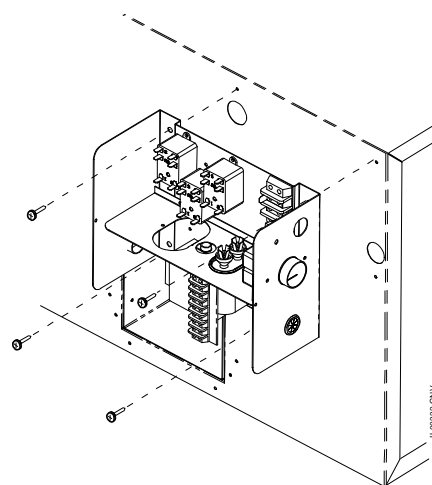

Figure 7. Mounting the Control Box.
To install, first remove the two knockouts on the side or top of the cabinet, where it will be installed. Mount the control box using four (4) sheet metal screws as shown in Fig. 7. Feed the wires from the anti-frost switch through the hole and bushing nearest the side of the unit and connect the leads to low voltage terminals 3 and 6. The motor wiring harness will slip through the other hole. Then simply connect the plug on the motor wiring harness. (For additional information see section on wiring.)